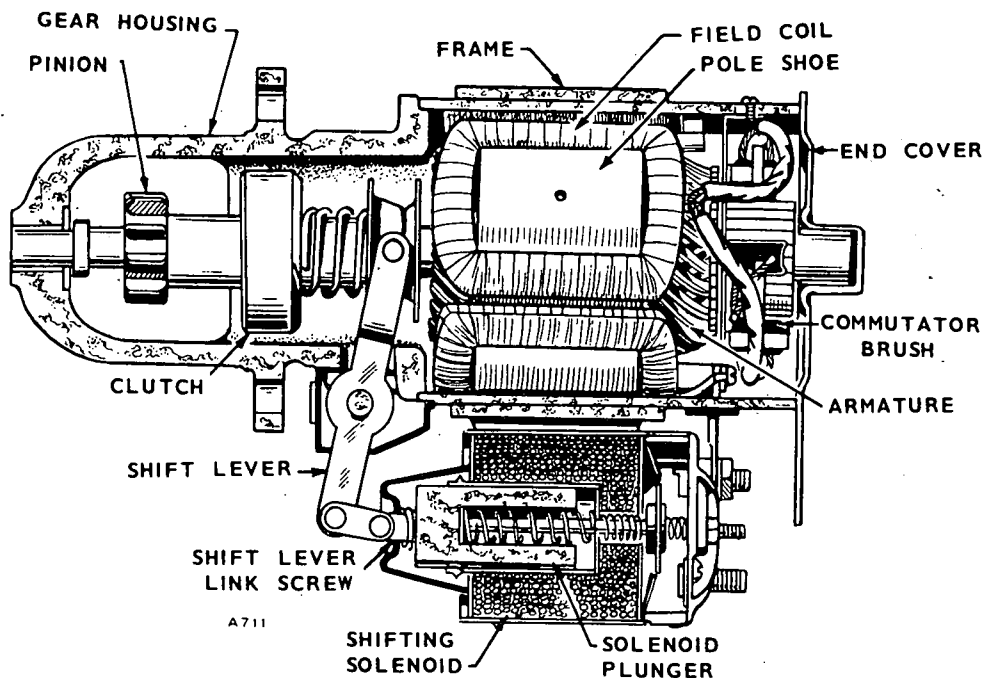

FIGURE 34. STARTING MOTOR
5. Remove link pin holding shift lever to solenoid plunger and remove the shift lever pivot pin. See Figure 34.